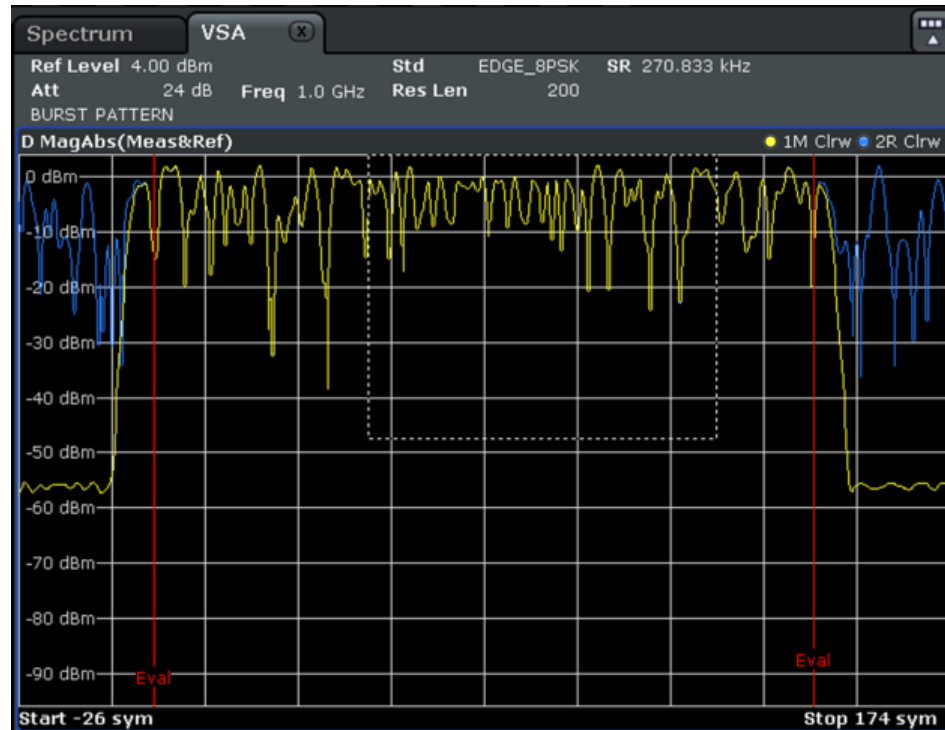

Fig. 8-13: Zooming
4. Select "Clear Write" as the "Trace Mode" and "Evaluation: Ref". This adds a second trace to your result display. This trace is the ideal reference signal that can now be compared to the measurement signal (see figure 8-13).
- To view the traces in more detail, enlarge the window using the "Split/Maximize" key () , and zoom into the display using the  icon in the toolbar (see the dotted rectangle in figure 8-13).